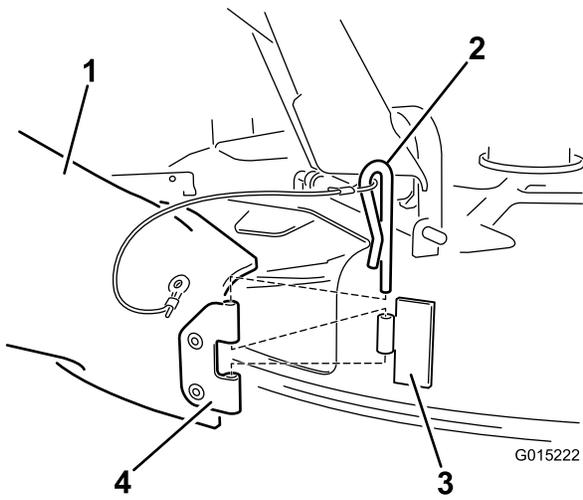

Figure 9
- Locate the chute in loose parts. Align the holes in the hinge on the chute with the hinge on the deck (Figure 9). Secure the chute to the deck using the hairpin on the lanyard connected to the chute.